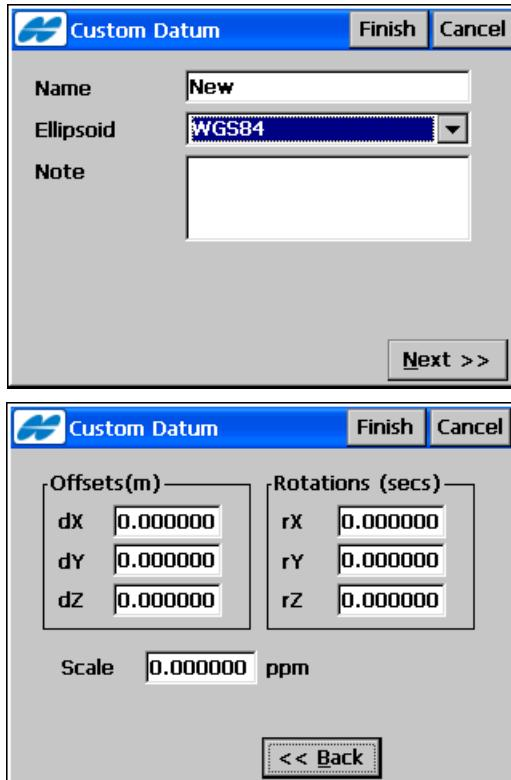

Figure 3-19. Custom Datum
- **Add** – opens the **Custom Datum** screen to enter parameters for a new custom datum (Figure 3-19 on page 3-23).
The **Custom Datum** screen (Figure 3-19) displays to enter or select parameters for a new custom datum.
- **Next** – opens another *Custom Datum* (Figure 3-19) screen to set offsets, rotations, and scale for the new datum.